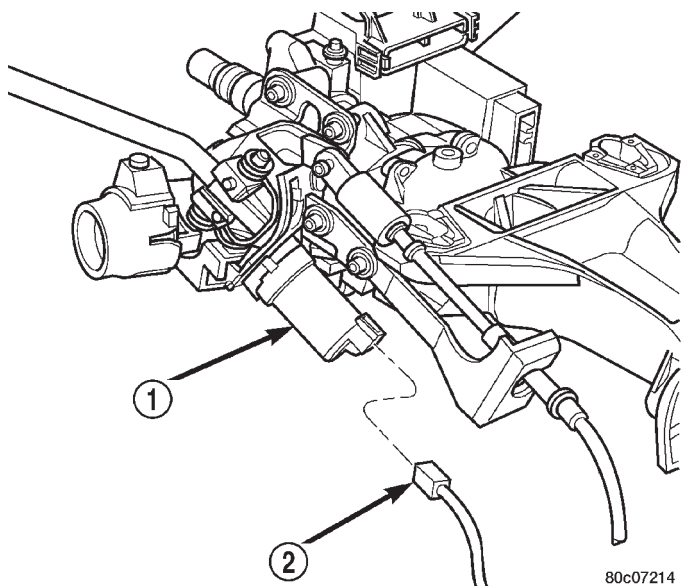

Fig. 70 Solenoid Connector
(7) Disconnect the wiring harness connector from the brake transmission shift interlock (BTISI) solenoid (Fig. 70).